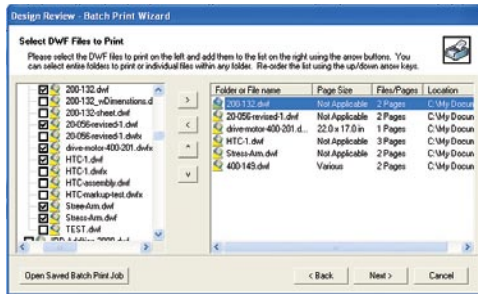

Figure 15
1. Select File>Batch Print Wizard. (Figure 15)